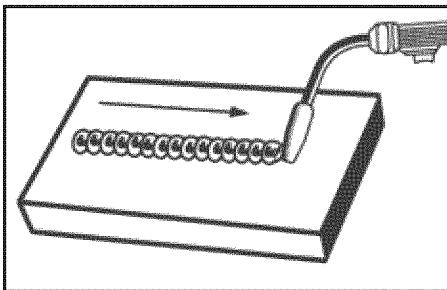

Fig. 9a
- **STRINGER BEAD** is formed by traveling with the torch in a straight line while keeping the wire and nozzle centered over the weld joint. (Fig. 9a)
- **FLAT POSITION** is easiest of the welding positions and is most commonly used. It is best if you can weld in the flat position if at all possible as good results are easier to achieve. (Fig. 9a)